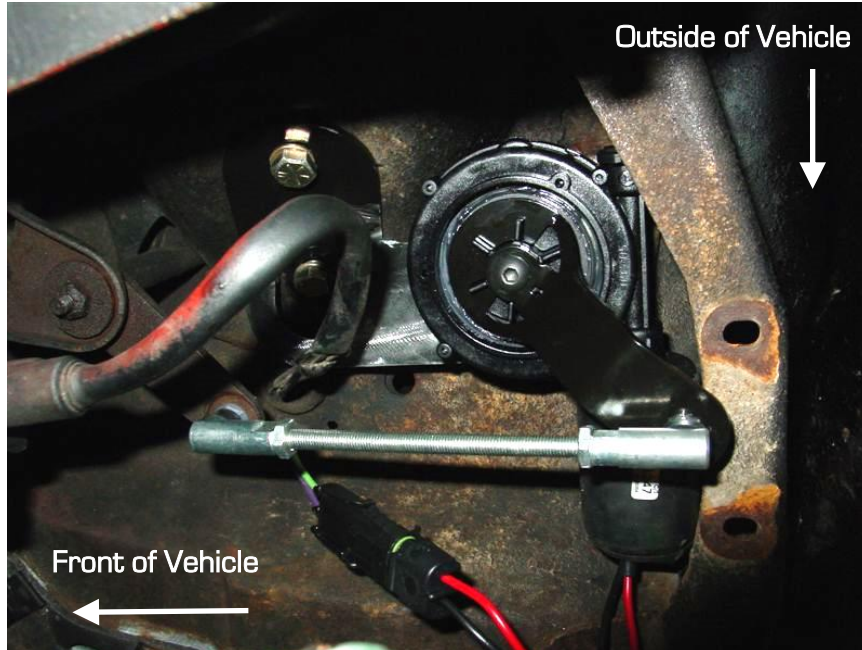

Figure 12 - Bottom View of Actuator
5. Remove these two bolts and position the actuator and bracket. The motor/wire pigtail should point towards the outside of the car. The holes are slotted so that the actuator assembly can be aligned with the bellcrank of the RS headlight assembly. Reinstall the two bolts to attach the actuator to the vehicle as shown in Figure 12 on the next page. **NOTE:** Position the actuator/bracket so that the pitman arm can pass underneath the splash guard bracket without contact. If you plan on using the splash guard you will need to trim it as necessary to clear the pitman arm and/or red override knob.